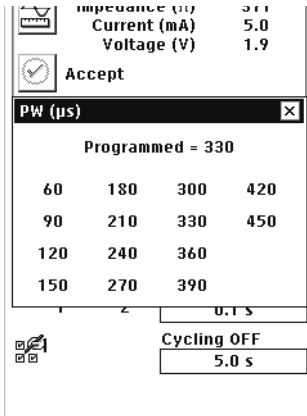

Figure 22. Select pulse width value.
2. A list of available pulse width options will appear. Select the target value (Figure 22).